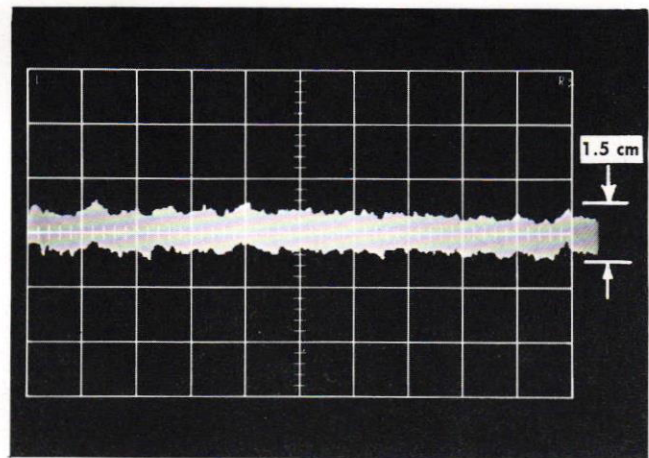

Fig. 6-15. Maximum random trace shift at 5 sec/cm, stored.
- Check stored display for  $\leq 1.5$  centimeters peak to peak. See Fig. 6-15.